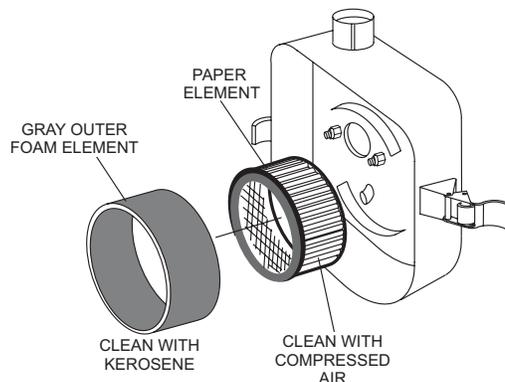

Figure 17. Engine Air Cleaner
- The air cleaner (Figure 17) on the engine side will hardly be contaminated, if it is, clean the outer foam gray element with cleaning solvent. Tightly squeeze outer foam element to remove any excess solvent before re-installing.
- Tap the paper filter element (Figure 17) several times on a hard surface to remove dirt, or blow compressed air [not exceeding 30 psi (207 kPa, 2.1 kg/cm²)] through the filter element from the air cleaner case side. **NEVER** brush off dirt. Brushing will force dirt into the fibers. Replace the paper filter element if it is excessively dirty.